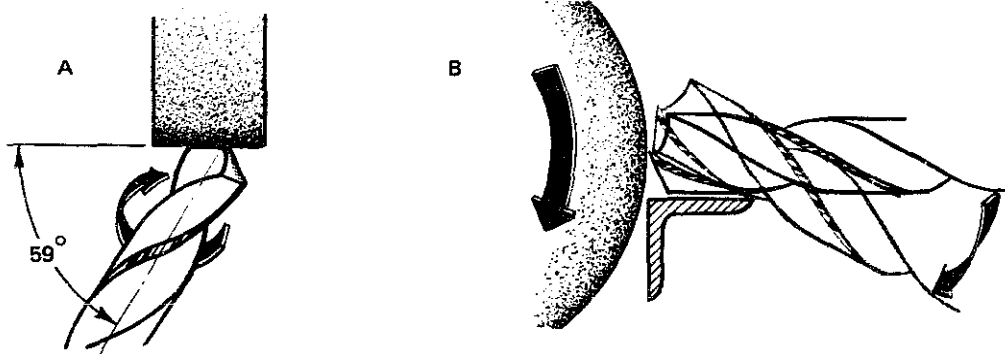
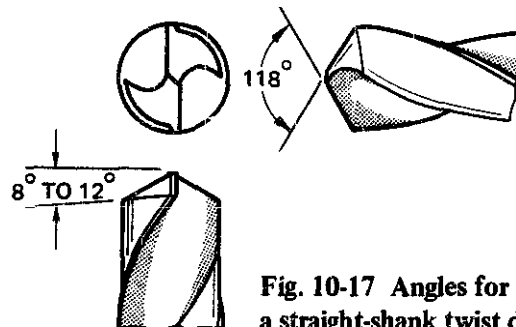

Fig. 10-16 Sharpening a straight-shank twist drill.
Fig. 10-17 Angles for grinding a straight-shank twist drill
1. With the tool rest adjusted on a horizontal plane, scribe 59-degree lines on its face as shown in A, figure 10-16. In this case the tool rest serves only as a reference point for sighting the angle at which to hold the drill and not as a support.
2. Place one cutting edge (lip) against the face of the wheel at a 59-degree angle (A, figure 10-16). As soon as the edge touches the grinder, raise the cutting edge and at the same time lower the shank end of the drill rotating it very slightly (B, figure 10-16). This movement should produce the correct drill angles. See figure 10-17.